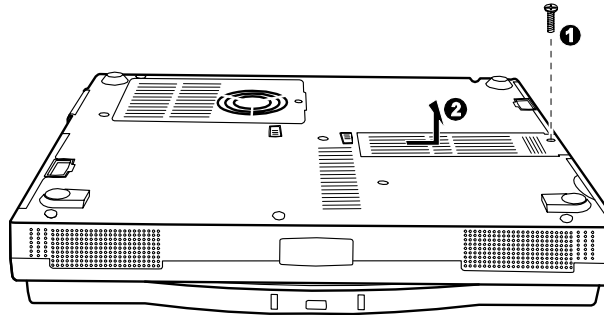

FIGURE 7-16. REMOVING THE FAX/MODEM/VOICE CARD COMPARTMENT COVER
2. REINSTALL THE COMPARTMENT COVER (WITH THE PAD) AND SECURE WITH ONE SCREW. (REFER TO FIGURE 7-16 EARLIER).